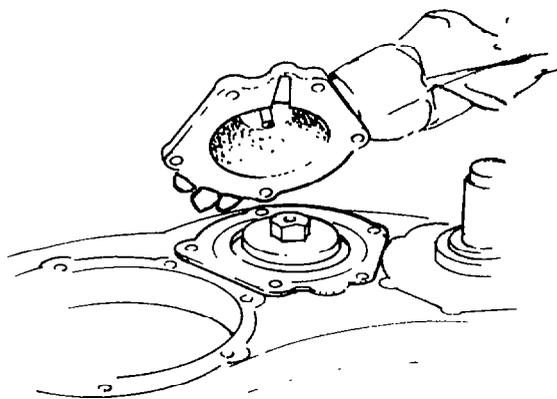

Fig. 254 — Installing Countershaft Rear Bearing Cover
- q. Install the countershaft rear bearing cover and adjusting shims. Then install the retaining bolts and torque to 61 – 88 Nm (45 – 65 lb.ft) (see fig. 254).